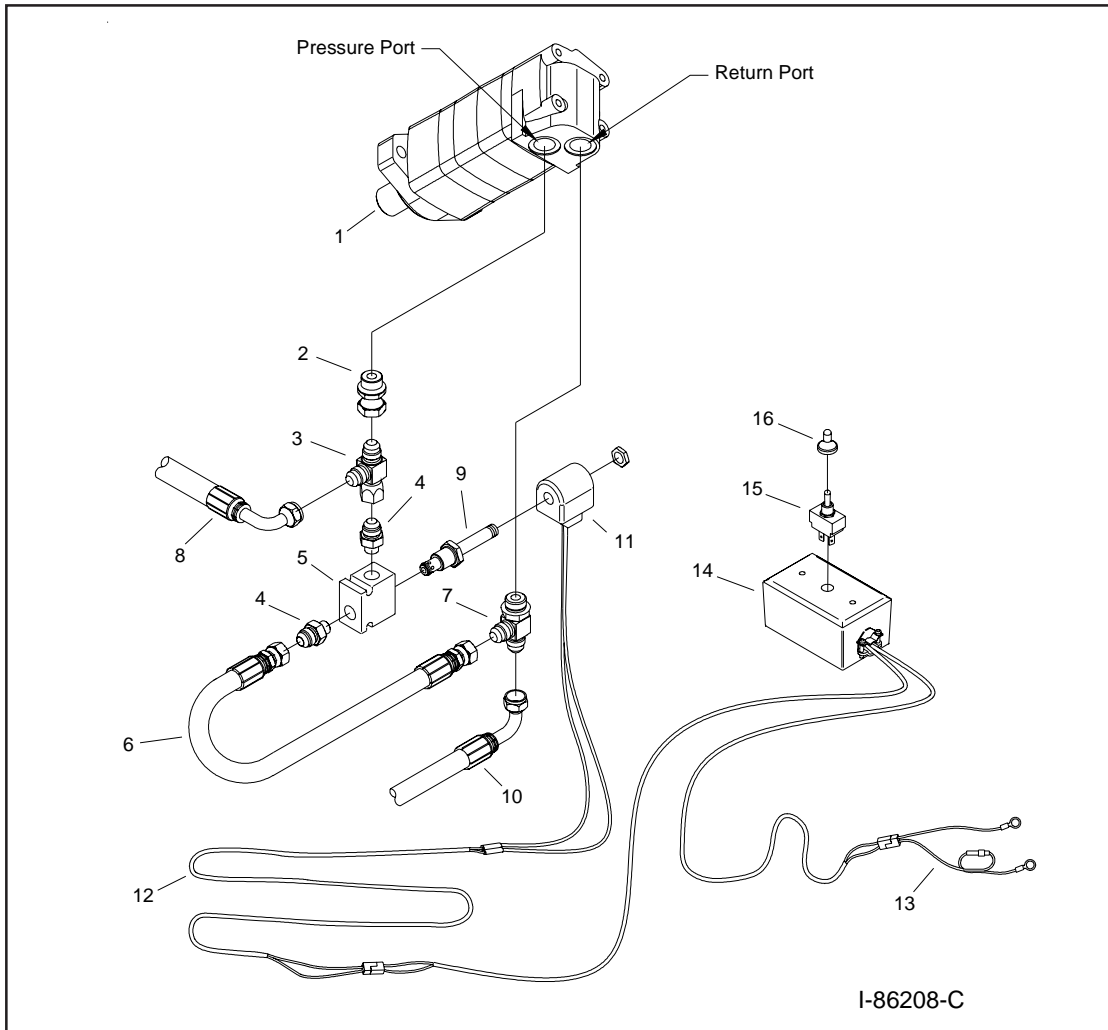

Figure B7 - 12 VDC Remote Apron Control Parts Detail
3. Refer to Figure B7, which shows the component parts detail of the Remote Apron Control.
NOTE: As shown in Figure B7, these hoses will eventually be re-connected to the Remote Apron Control Fittings; for proper functioning of the new control, it is extremely important that the proper hoses be connected to the corresponding new fittings as shown.
- Assemble the remaining fittings as shown in Figure B7.